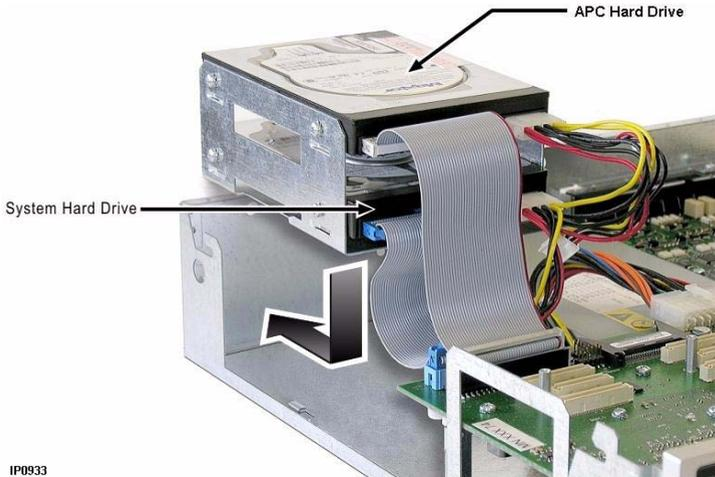

Figure 16: Connecting cables to APC - CXi
6. Connect the power and IDE cables to the corresponding connectors on the hard drive and main board. The cables are keyed for proper connection (see Figure 16).